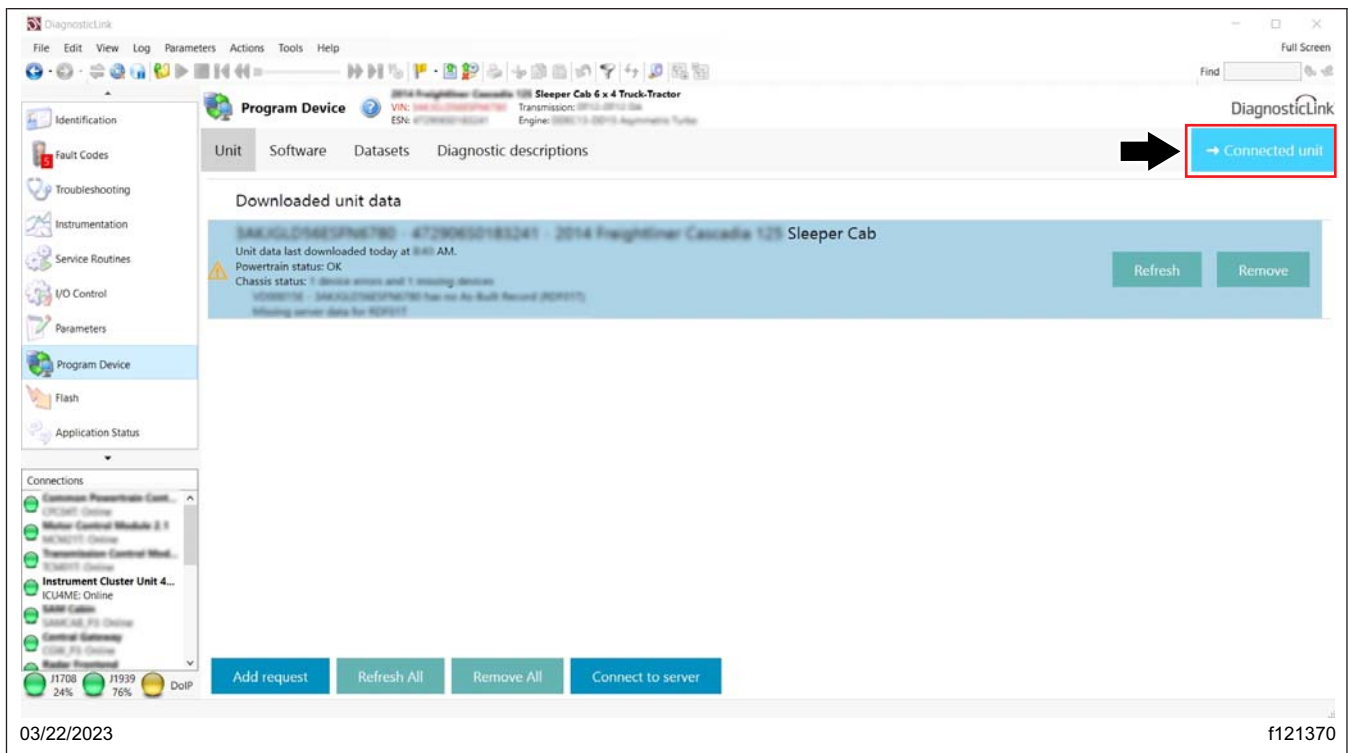

Fig. 12, Selecting Connected Unit
8.6 After the server data download is complete, select 'Connected unit.' See Fig. 12.